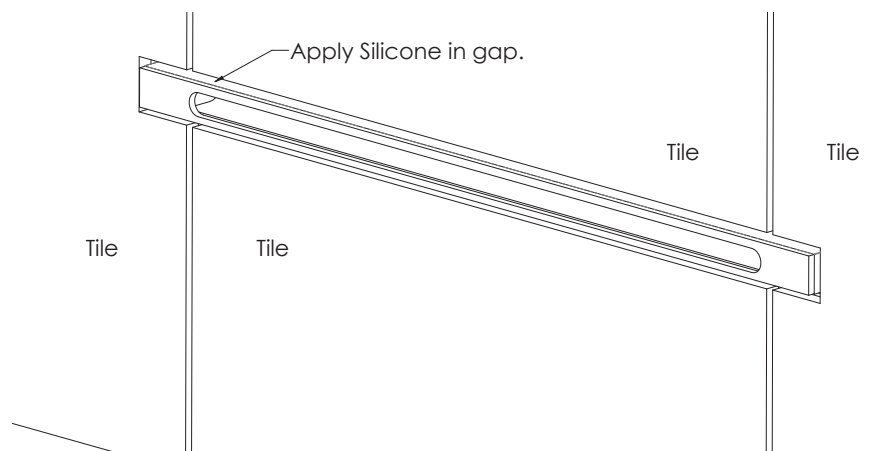

Figure 7
STEP 12. Apply silicone (supplied) in gap as shown in Fig. 7.